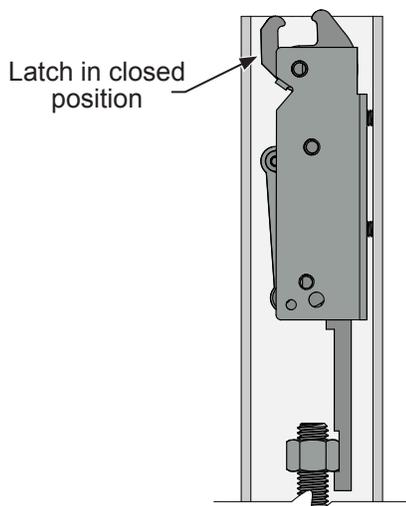

FIG. 21
1. The door must be in the closed position and the push bar must be in the un-dogged position to complete the following adjustments. **(Fig. 21)**
Release the dogging mechanism and manually position the upper latch to the locked position. **(Fig. 21)**